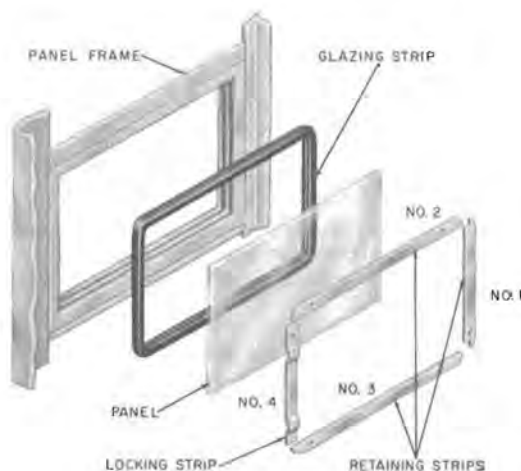

Fig. 28—Assembly of Side or Rear Panels
4.10 Booth panels and signs are held in place by four interlocking retaining strips. They are inserted in sequence as shown in Fig. 28. The No. 4 strip is rippled and is held in place by interface friction. In older booths the No. 4 strip is secured by Allen screws; these strips should be replaced with the rippled strip when replacing signs or panels. Refer to Table E for retaining strips.
- (2) Remove retaining strips No. 2 and No. 3.
- (3) Remove retaining strip No. 1.
- (4) Remove panel and rubber glazing strip.
- (5) Apply rubber glazing strip to replacement panel.
- (6) Insert panel into frame with the beaded edge of glazing strip on the outside and the open joint in lower right corner as viewed from inside.
- (7) Replace retaining strips in sequence as shown in Fig. 28.